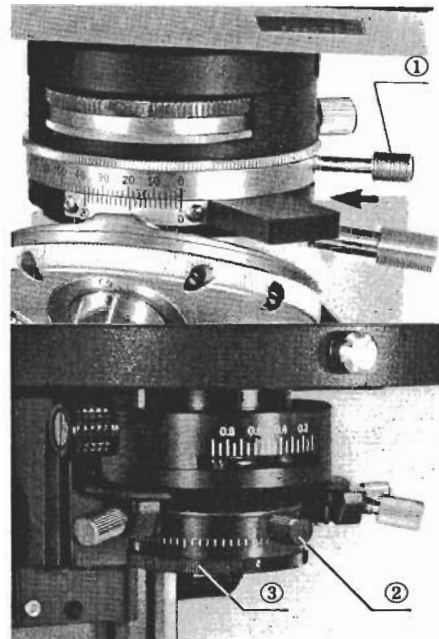

Fig. 12
- 6) Push analyzer ① into the light path, and make sure that both polarizer and analyzer are set at position "0" to attain the "crossed filter" position. Then loosen the clamping screw ② of the polarizer. (Fig. 12)
- 7) Remove the specimen out of the light path so that a transparent area comes into the light path. Keeping the polarizer at the "0" position, rotate the polarizer rotation ring ③ until the optimum extinction is obtained, then clamp the ring. (Fig. 12)